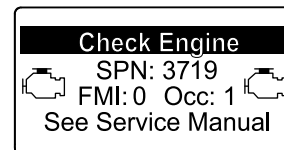

Figure 34
- If a recovery regeneration is needed, the InfoCenter displays engine warning SPN 3719, FMI 16 (Figure 34) and the engine computer derates engine power to 85%.